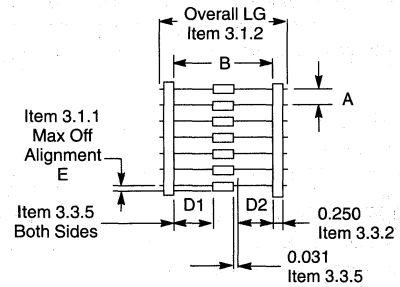

Figure 2. Component Spacing
3.1.2 – The "C" dimension shall be governed by the overall length of the reel packaged component. The distance between flanges shall be 0.059 inch to 0.315 inch greater than the overall component length. See Figures 2 and 3.
3.3.2 – Component's leads shall be positioned perpendicularly between pairs of 0.250 inch tape. See Figure 2.